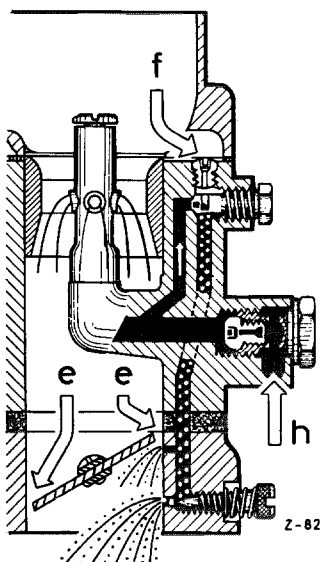

Fig. 07-0/8
When the throttle valve is being slightly opened, idle mixture flows through both the idle mixture bore (41) and the by-pass bores (42). The by-pass bores now serve to ensure a proper change-over to the main carburetion system (Figs. 07-0/7 and 07-0/8).
In its standard form the downdraft carburetor Type 32 PJCB has a float chamber with float and float needle valve in the carburetor cover. The float chamber is ventilated by the tube (9) in the carburetor cover. The carburetor parts for the main carburetion system are the air horn, the main jet and the air correction jet with mixing tube (see Fig. 07-0/1).